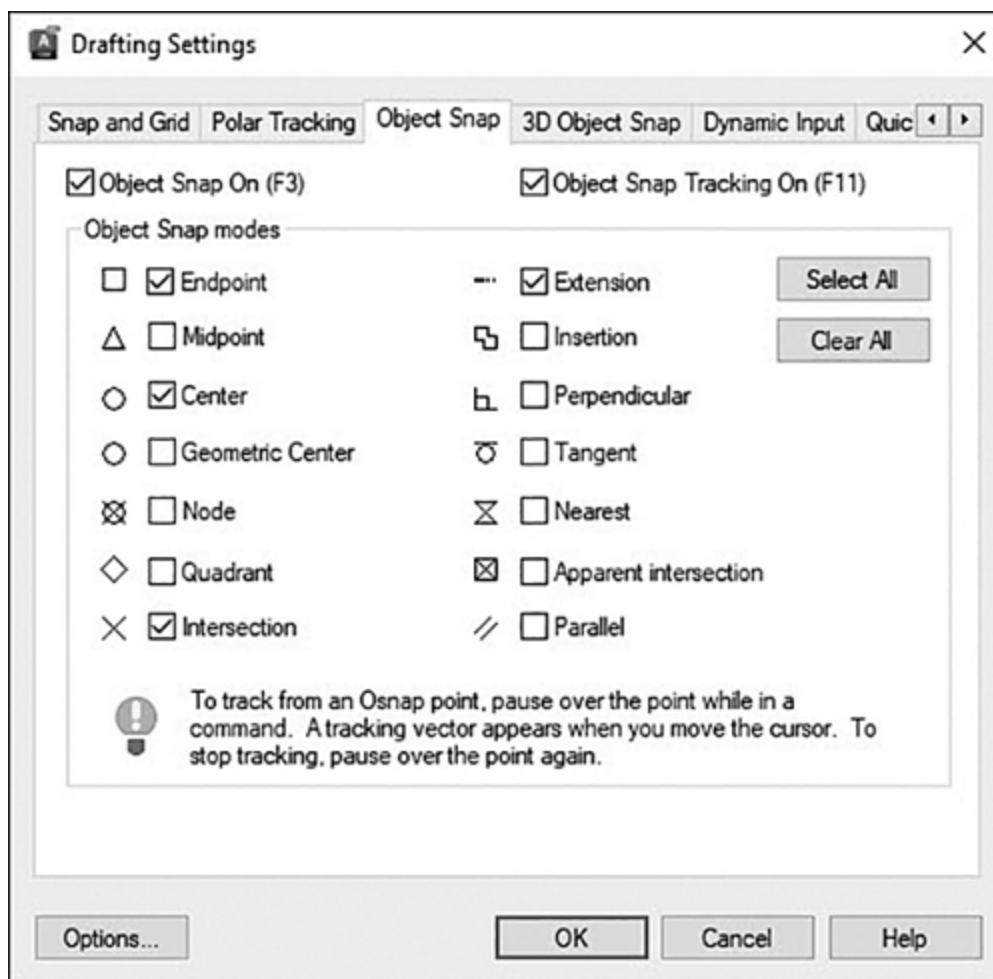

Figure 5-17
The second approach to using object snaps is to turn on a select number of object snaps via the **Object Snap** tab of the **Drafting Settings** dialog box (see Figure 5-17) so that they are automatically activated each time you are prompted for a point location.
- 3 Click on the down arrow menu to the right of the **Object Snap** button on the status bar and select **Object Snap Settings...** from the shortcut menu. The **Object Snap** tab of the **Drafting Settings** dialog box is displayed (see Figure 5-17).